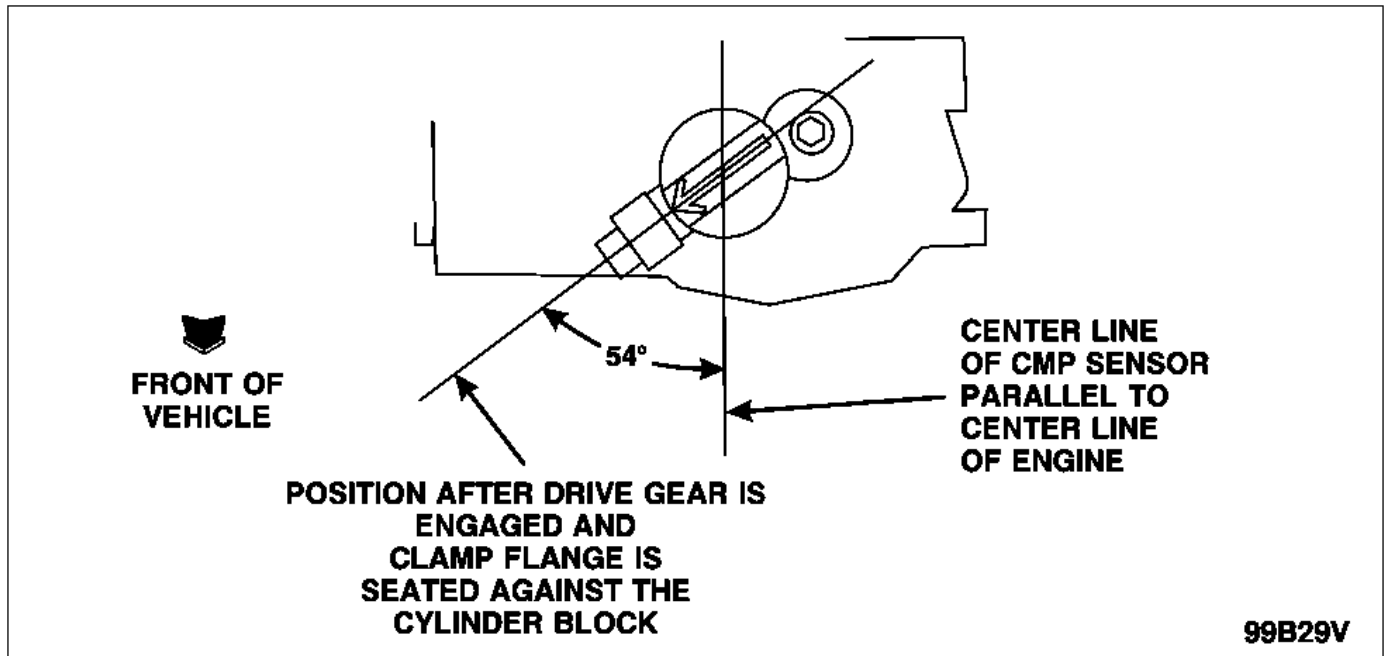

FIGURE 22
- Insert the camshaft synchronizer assembly in the front cover. Install the synchronizer assembly so that the arrow on the alignment tool is 54 degrees from the centerline of the engine. See Figure 22. This ensures that the CMP sensor electrical connector has proper clearance.